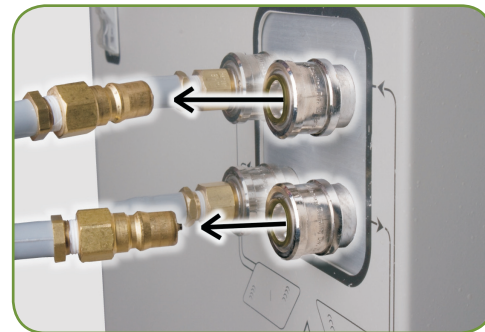

FIGURE 9
5. How do I check the flow through the body wraps? (See Figure 9):